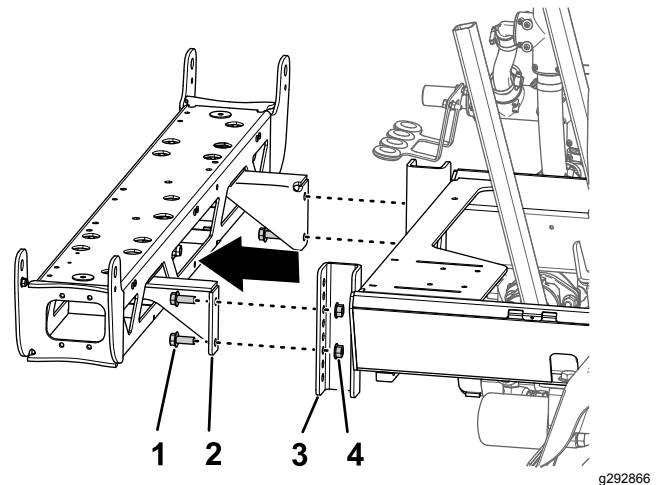

Figure 81
3. Remove the 4 flange-head bolts (1/2 x 1-1/4 inches) and 4 flange locknuts (1/2 inch) that secure the support brackets of the center boom section to the mounting channel on the frame for the sprayer, and remove the center boom section from the machine (Figure 81).